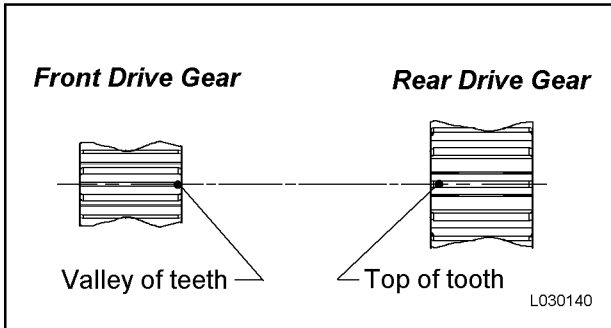

FIGURE 3-16. PUMP GEAR TIMING
**NOTE:** To ensure that the gear pump is correctly timed during reassembly, place a mark on the end of the input shaft to indicate the location of the valley between any two gear teeth. Refer to Figure 3-16 which illustrates gear timing.
20. Install rear drive gear (1) and idler gear (13). The rear drive gear must be timed with the front drive gear. This is accomplished by lining up a tooth on the rear drive gear with the valley of two teeth on the front drive gear as shown in Figure 3-16.